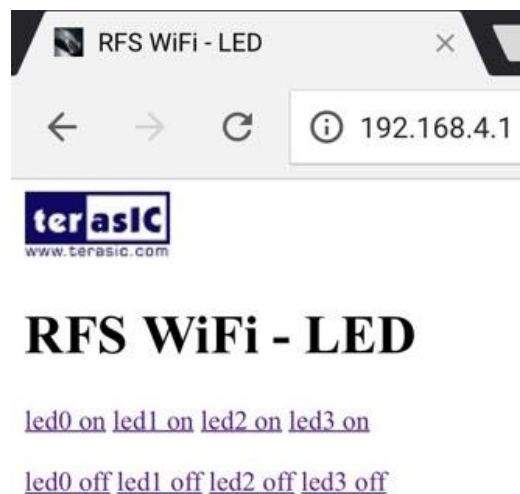

Figure 4-5 LED Control Web
This demonstration shows how to implement a simple Wi-Fi web server in such a way that users can directly use a mobile device to visit the web server. In the mobile device, a web server is used to client the web server. The web server provides the LED control interface as shown in **Figure 4-5**. Users can click the blue led text to lighten/un-lighten the LEDs on the FPGA main board.
8. Click led_on and led_off the control the LED on FPGA as shown in Figure 4-5.